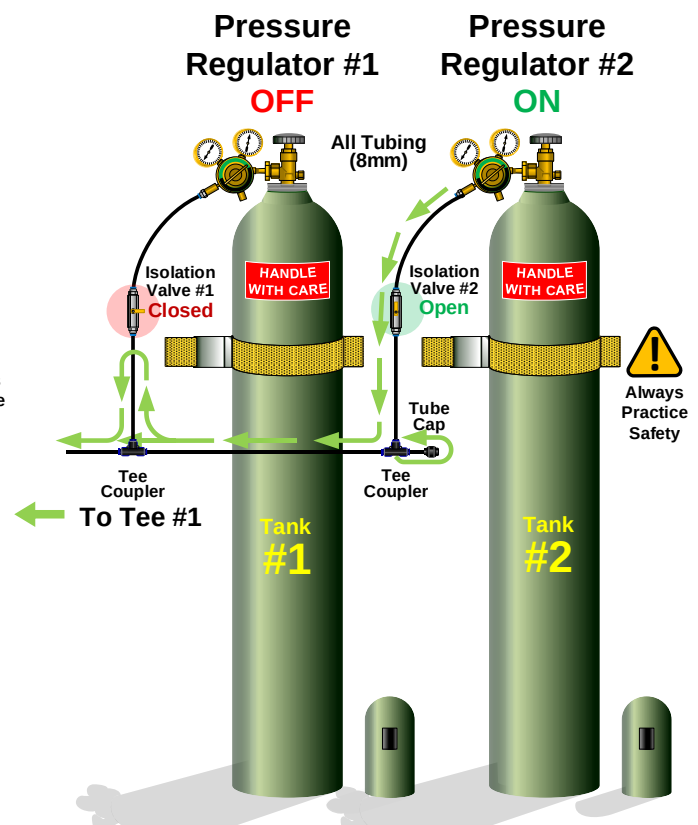

Figure 15
15.6 When the Fiber Bundle forward progress begins to decline, quickly and simultaneously close Isolation Valve #1 and open Isolation Valve #2. This action switches the tanks and keeps a constant supply of gas flowing to the Blowing Head Air Motor and Tube Span through the "First" Tee Coupling. **See Fig. 15.**